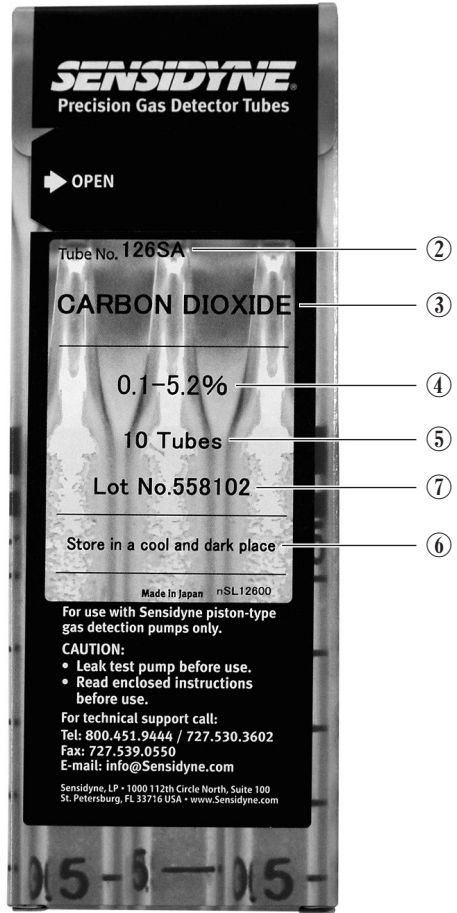

FIG. 2.12 DETECTOR TUBE BOX
#### (1) On the tube box (See FIG. 2.12)
- ① Expiration date of shelf life
- ② Tube number (catalogue number)
- ③ Gas or vapour to be detected
- ④ Measuring range
- ⑤ Quantity of tubes in the box
- ⑥ Storage instructions (Refer to 1.4.6)
- ⑦ Manufacturing lot number